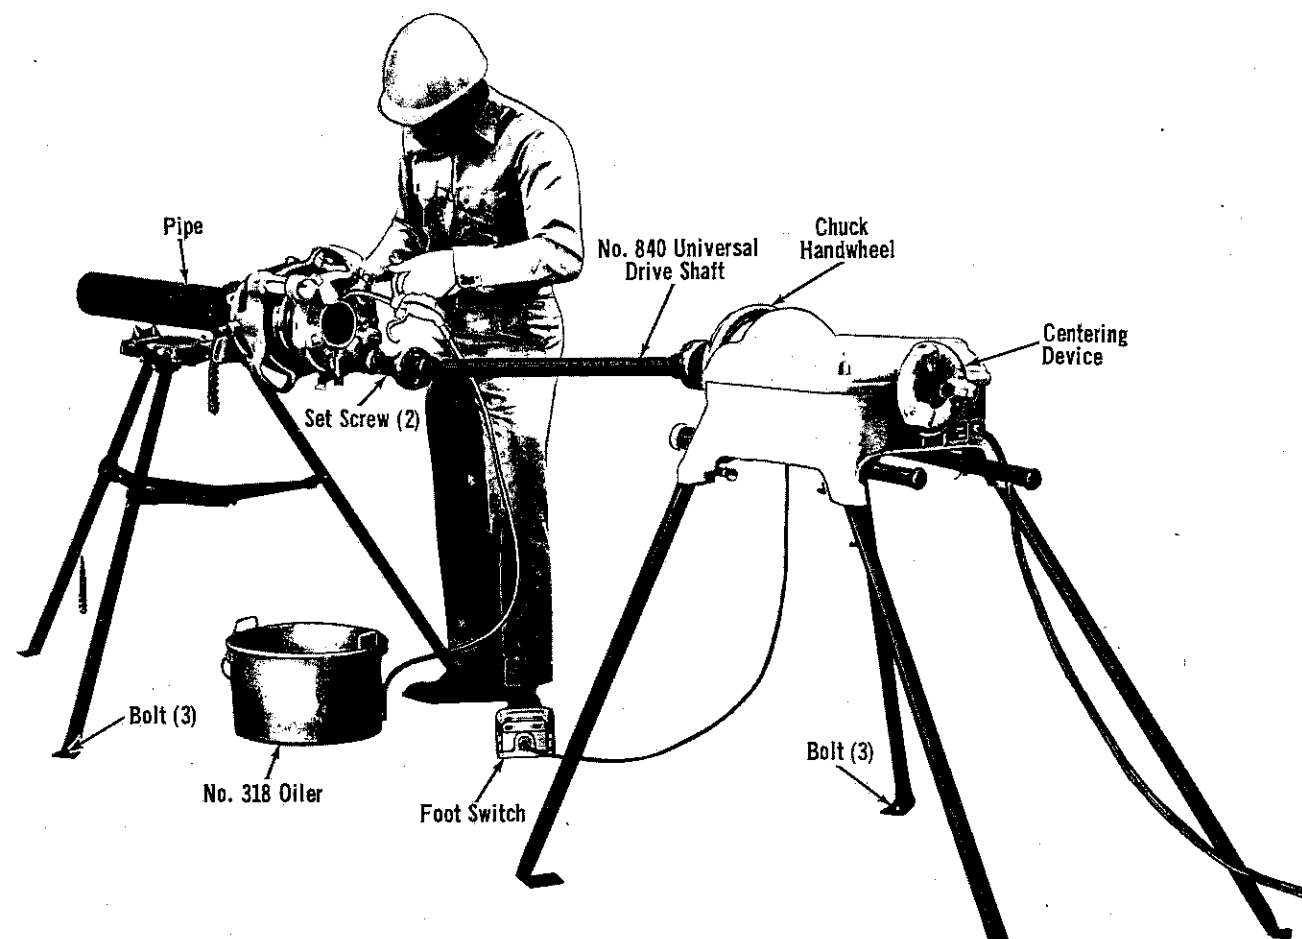

Figure 14. Threading with Nos. 141, 161, and 4PJ Geared Threaders using No. 840 Universal Drive Shaft.
Installing Nos. 4PJ, 141 & 161 Geared Threaders Using No. 840 Universal Drive Shaft (Fig. 14)
5. Flood Dies (Fig. 14) with RIDGID Thread Cutting Oil during threading operation to assure long Die life.
1. Loosen 2 Set Screws (Fig. 14) and remove Universal Drive Shaft from Threader.